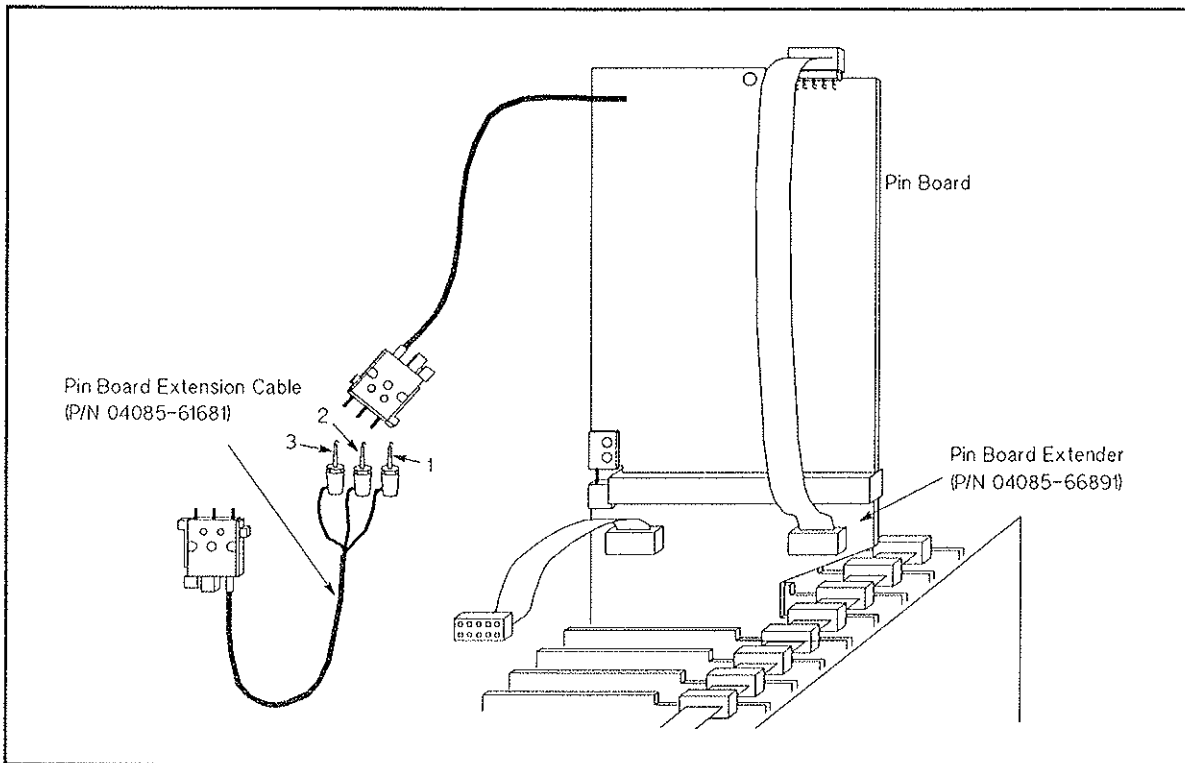

Figure 3-25. Extending Pin Boards
2. Using the pin board extractor, remove the required pin board(s), and extend the pin board as shown in Figure 3-25. The pin board extender and extension cable are included in the HP 4062 Product Support Package.